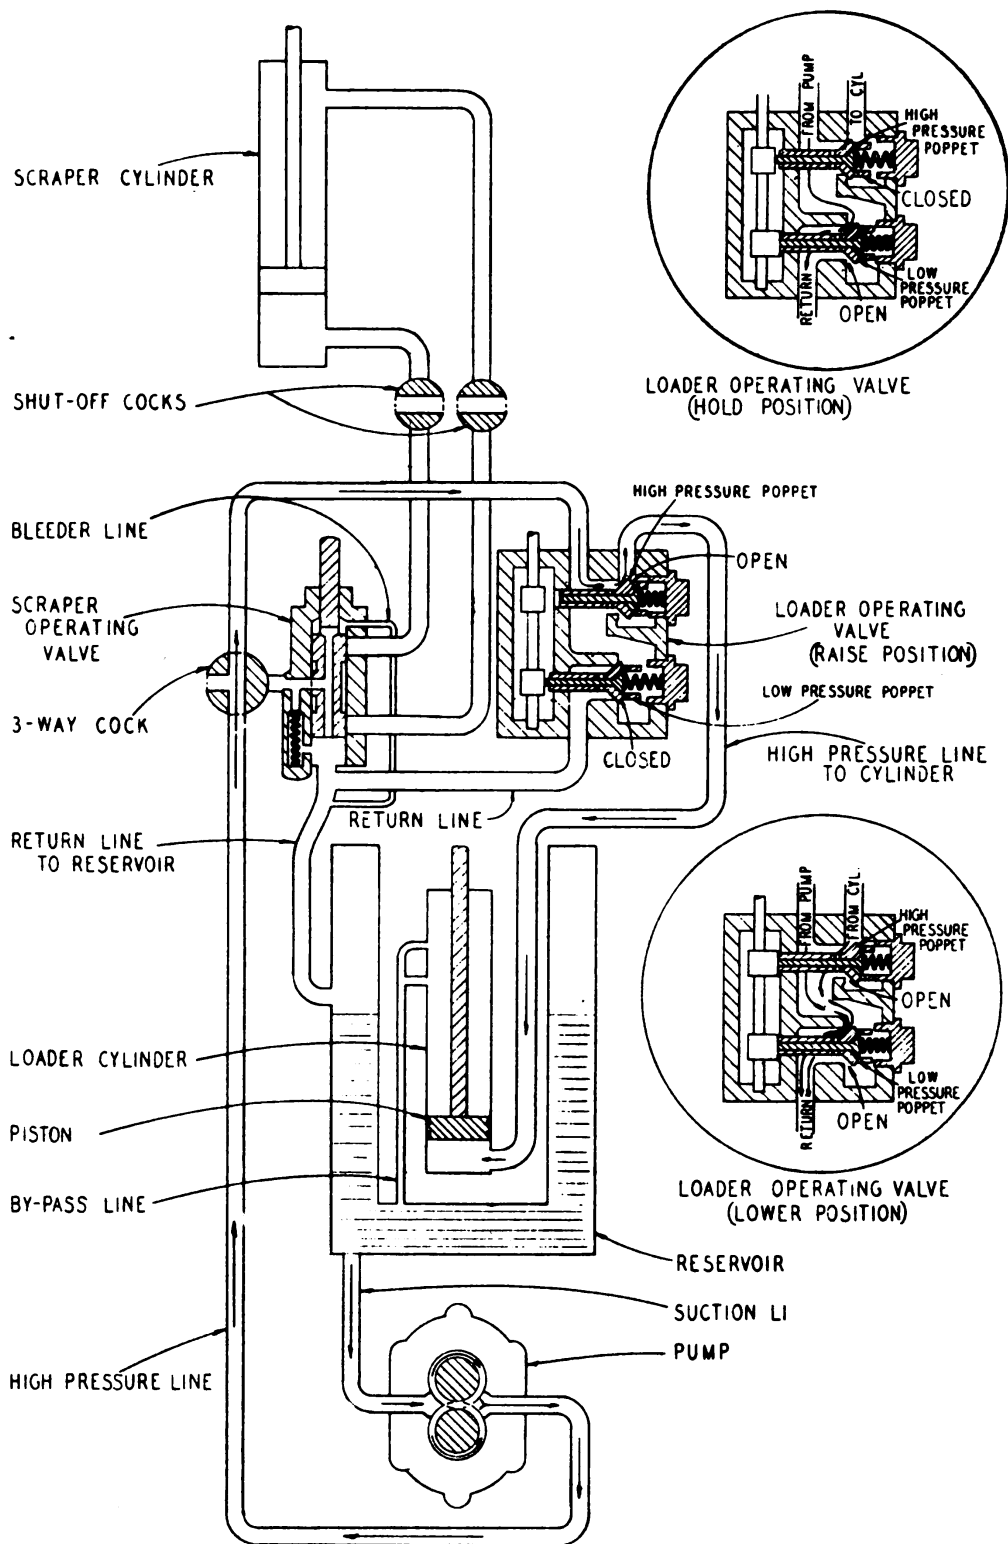

Fig. 14
5. Turn three-way cock so oil will be directed into the scraper valve. (See Fig. 14 page 26.)
6. Turn shut off cocks, located just ahead of the weight box, to the "OPEN" position. (See Fig. 14 page 26.)
(See Fig. 14 page 26.)
4. Check the position of the poppets in "RAISE", "HOLD" and "LOWER" positions. (See Fig. 14 Page 26 for valve poppet positions.)
With the valve control lever in the "RAISE" position the poppets in both valve chambers should seat solidly. (See Fig. 14 Page 26).
NOTE: IN OBSERVING FIG. 14 PAGE 26 NOTE THAT THE HIGH PRESSURE POPPET IS OPEN DUE TO PRESSURE FROM THE PUMP, AND IS FREE OF THE CAMSHAFT.
With the operating control lever in "HOLD" position the high pressure poppet should be closed and the low pressure poppet should be open. (See Fig. 14 page 26).
With the valve control lever in "LOWER" position both high and low pressure poppets should be open. (See Fig. 14 page 26).